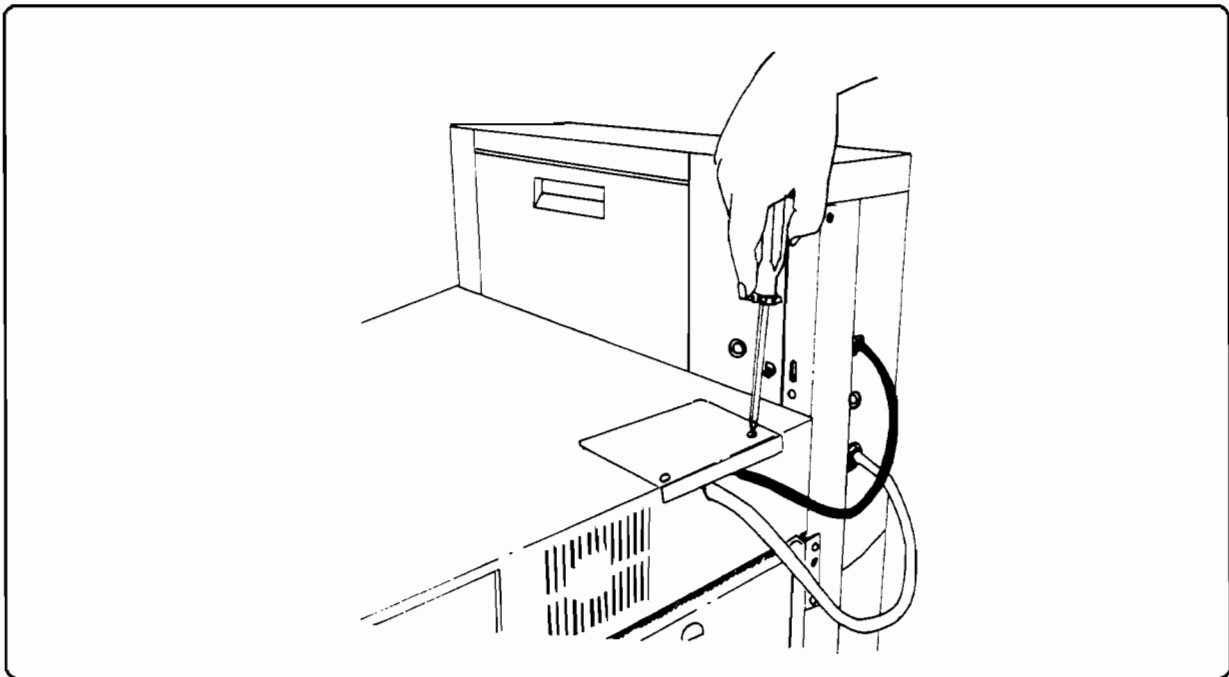

Figure 6-18. Cable Plate Removal
5. At the back of the top section remove the cable access plate (two screws - see Figure 6-18).